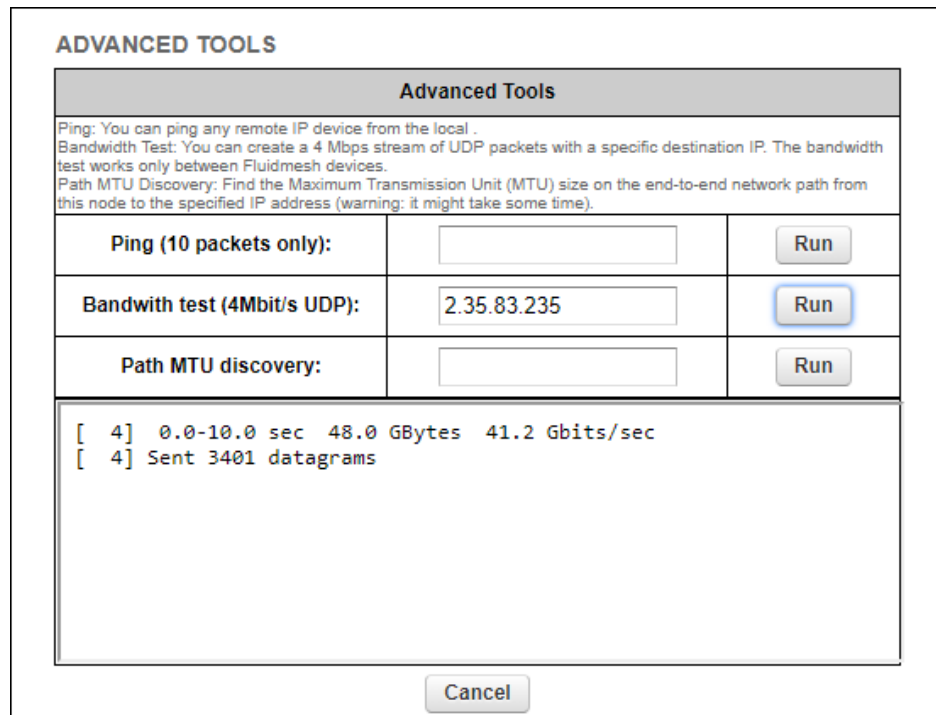

Figure 25. Advanced Tools window (Bandwidth test tool)
2. Enter the IP address of the other unit in the **Bandwidth test (4Mbit/s UDP):** field (Figure 25 (page 69)).